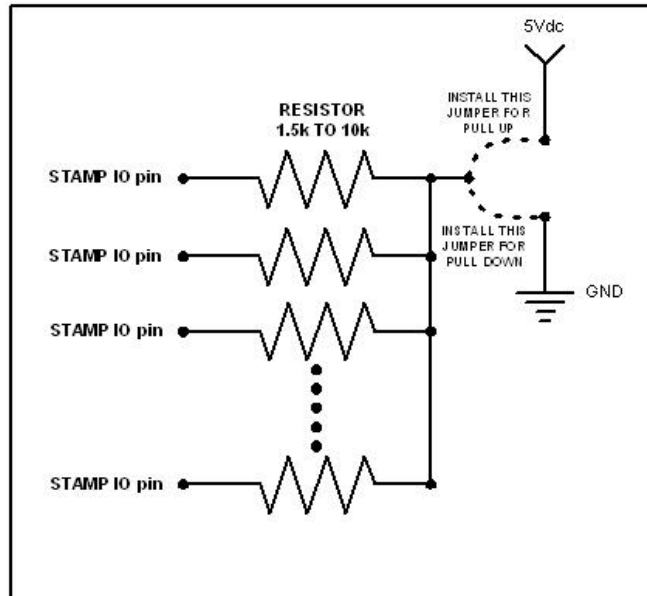

Figure 8. Pull Up/Down Circuit
- It is usually not a good idea to leave input IOs floating. To avoid this, connect a pull up/down resistor to an IO. For instance, if you want to have a contact closure device trigger an input, you will normally pull the input up to 5 volts and have the contact closure change its state to zero (or ground). The general circuit diagram for pull up/down resistor networks looks like Figure 8.